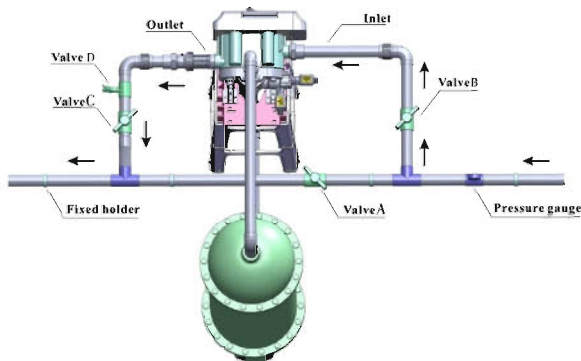

Figure 1-4
③Pipeline connection
- As Figure1-4 shows, install a pressure gauge in water inlet.